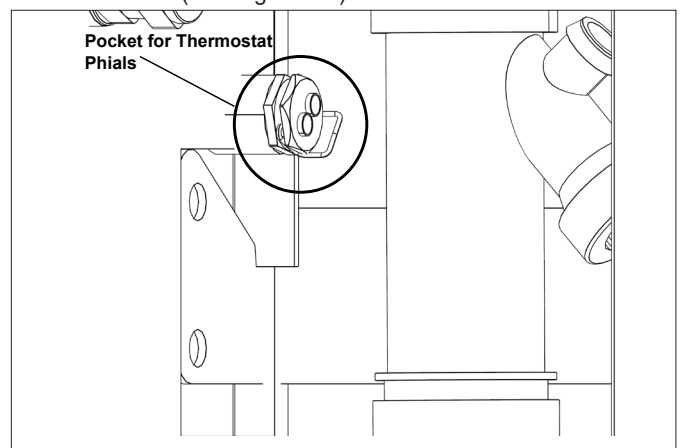

Figure 4-1: Removing thermostat phials
7. Remove retaining clip and thermostat phials from their pocket in the right side of heat exchanger – below the return connection. (See Figure 4-1)